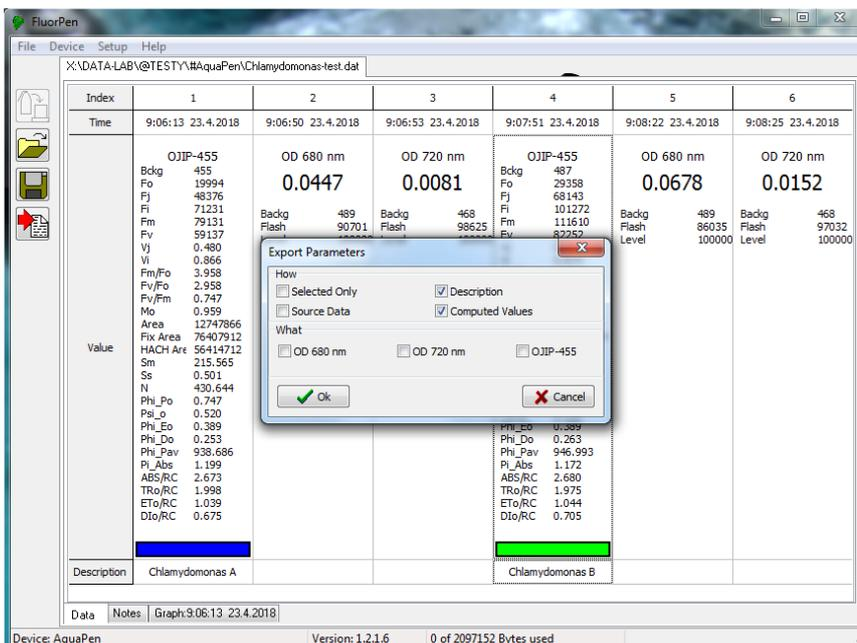

Fig. 30 Data export.
- To **export** data from the FluorPen software select **File > Export** or **Export** icon. Select data type to export (Ft, QY, OJIP...) -Fig. 30.